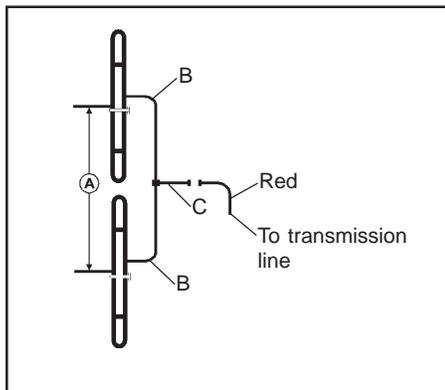

Figure 7 - DB212-2
Installing the DB212-2 (refer to Figure 7):
9. Connect the antenna feed cable (see Figure 7) from Dipole 2 to the "Tee" connection on the phasing harness attached to Dipole 1. Make all connections snug but do not apply heavy force with pliers. This should leave the phasing harness transformer (color coded red) open for connection to the station transmission line.